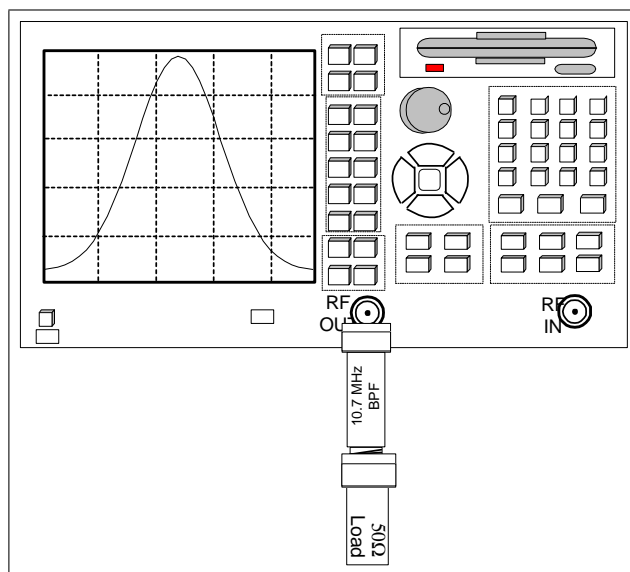

Fig. 8 Basic reflection measurement
1. Connect a 10.7MHz BPF to the Network Analyzer as shown in Figure 8.